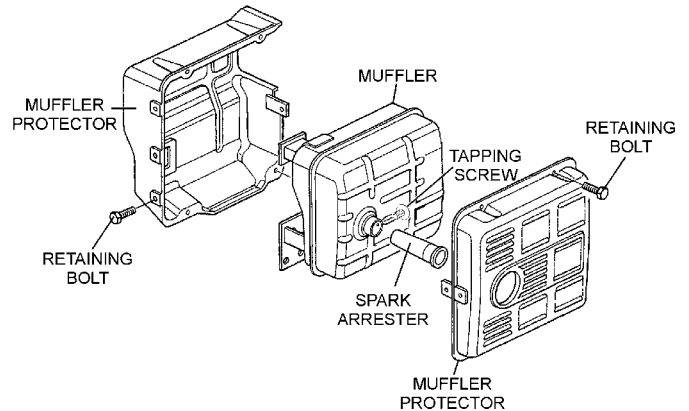

**Figure 35. Cleaning Foam Element**
2. Clean foam element (Figure 35) in warm, soapy water or non-flammable solvent. Rinse and dry thoroughly.